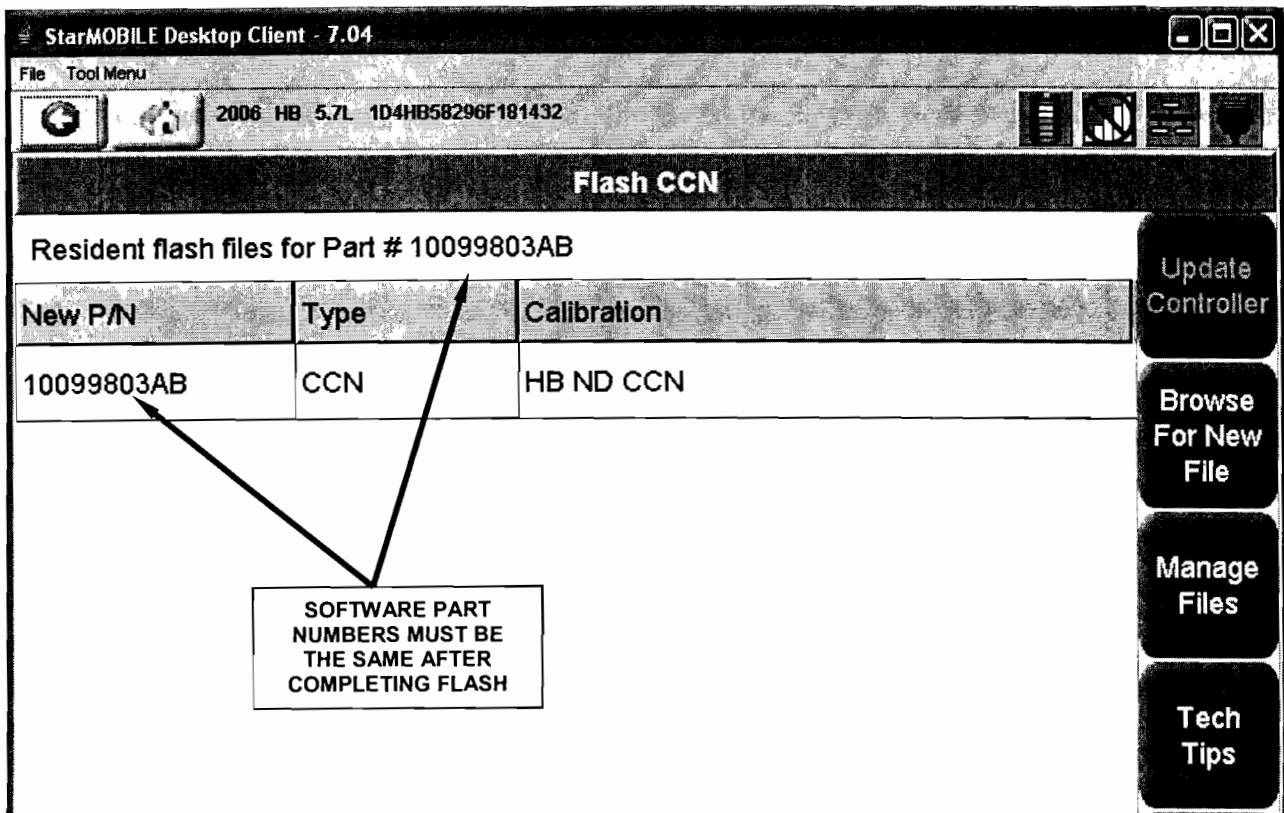

Figure 11- StarMOBILE Sample Shown After Flash
28. Verify the part number (resident flash file) at the top of the screen has updated to the new part number (Figure 11).
- If the two part numbers displayed on the “Flash CCN” screen are different, “power down” the StarMOBILE and then “power up” the StarMOBILE. Reread the part numbers displayed on the “Flash CCN” screen (Figure 11). They now should be the same.